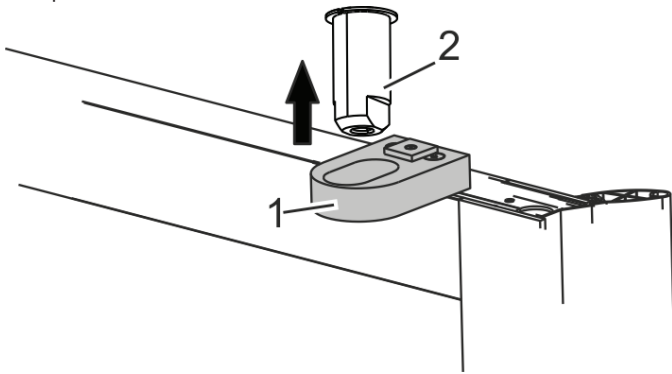

Fig. 55 Locking pin
3. Use the manual lock release or a screwdriver to push the locking pin (Fig. 55/1) into the ceiling through the threaded hole (M8) until the locking pin is located above the locking plate (Fig. 55/1).